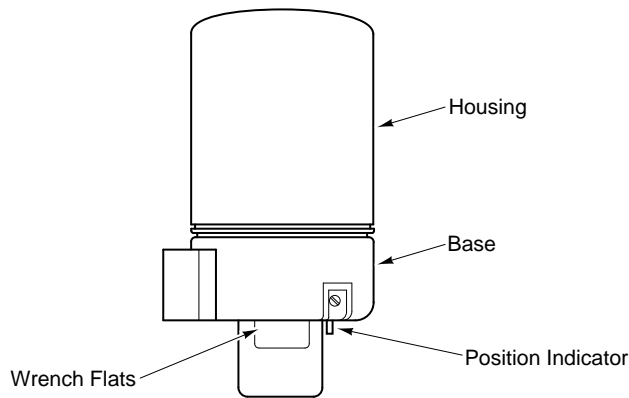

Figure-5 Housing and Base Location.
**Caution:** Do not twist or exert any force on the actuator housing during installation. Either turn the base by hand or, if necessary, use a 1-5/8" open-ended wrench (TOOL-37) on the flats provided on the actuator base or the valve body mounting nut. Refer to Figure-5.
Do not twist or exert any force on the actuator housing during installation. Either turn the base by hand or, if necessary, use a 1-5/8" open-ended wrench (TOOL-37) on the flats provided on the actuator base, or on the valve body mounting nut. Refer to Figure-5.